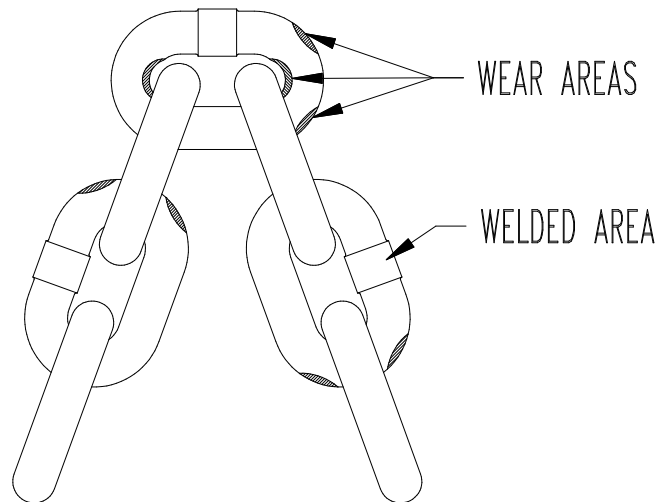

Figure 5. Chain Wear and Corrosion Areas
8. **LOAD CHAIN.** Examine each of the links for bending, cracks in weld areas or shoulders, traverse nicks and gouges, corrosion pits and chain wear, including bearing surfaces between chain links (see **Figure 5**). Replace a chain that fails any of the inspections. Check chain lubrication and lubricate if necessary. Refer to “Load Chain” in “LUBRICATION” section.